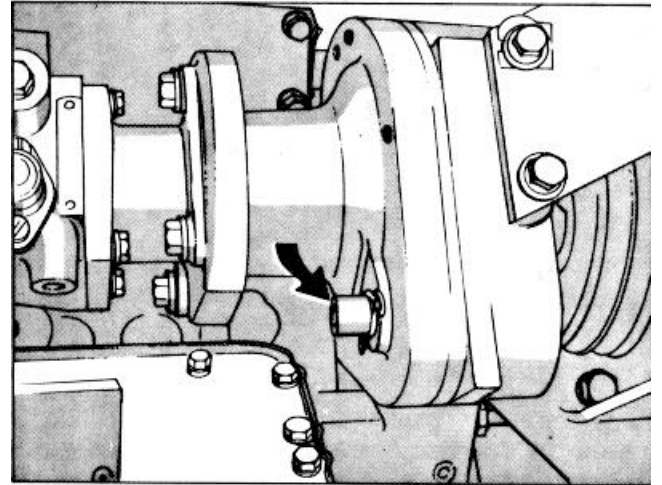

Fig. 2-35, (OM1041L). Barring V-903 Engine
**Note:** Remove the key, and using either a 3/8 inch hex drive for female type barring device or a 5/8 inch six-point socket for the male type barring device, press inward until the barring gear engages the drive gear; then advance. Fig. 2-35. After completion of adjustment, be sure the drive retracts and install the key into the safety lock groove.
Using the regular engine barring device, Fig. 2-35, rotate the engine in the direction of rotation with the